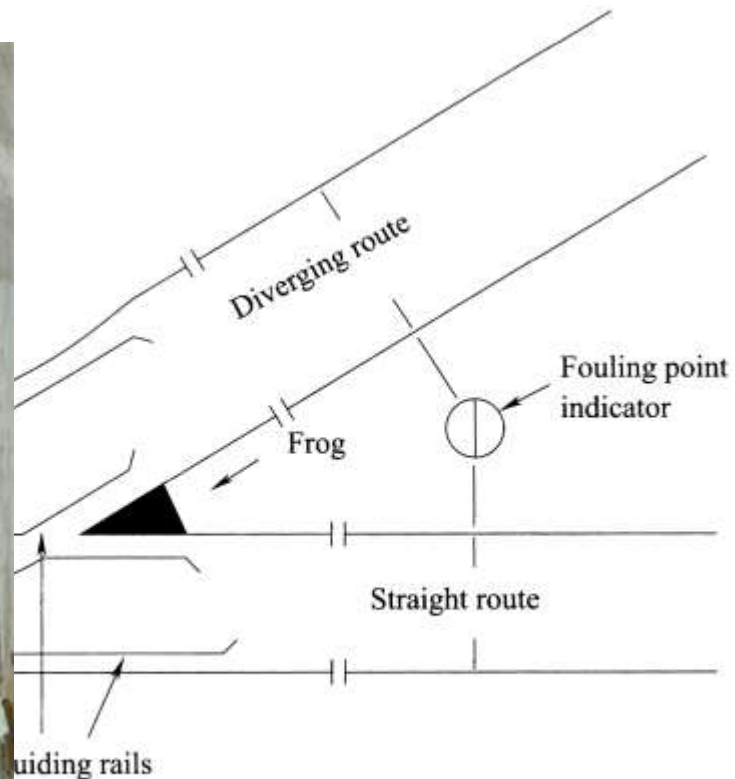

Fig. 1.3 Components of a turnout
- ◆ which effect the **tangential branching** of tracks and allows trains or vehicles to run over one track or another (Fig.1.3).